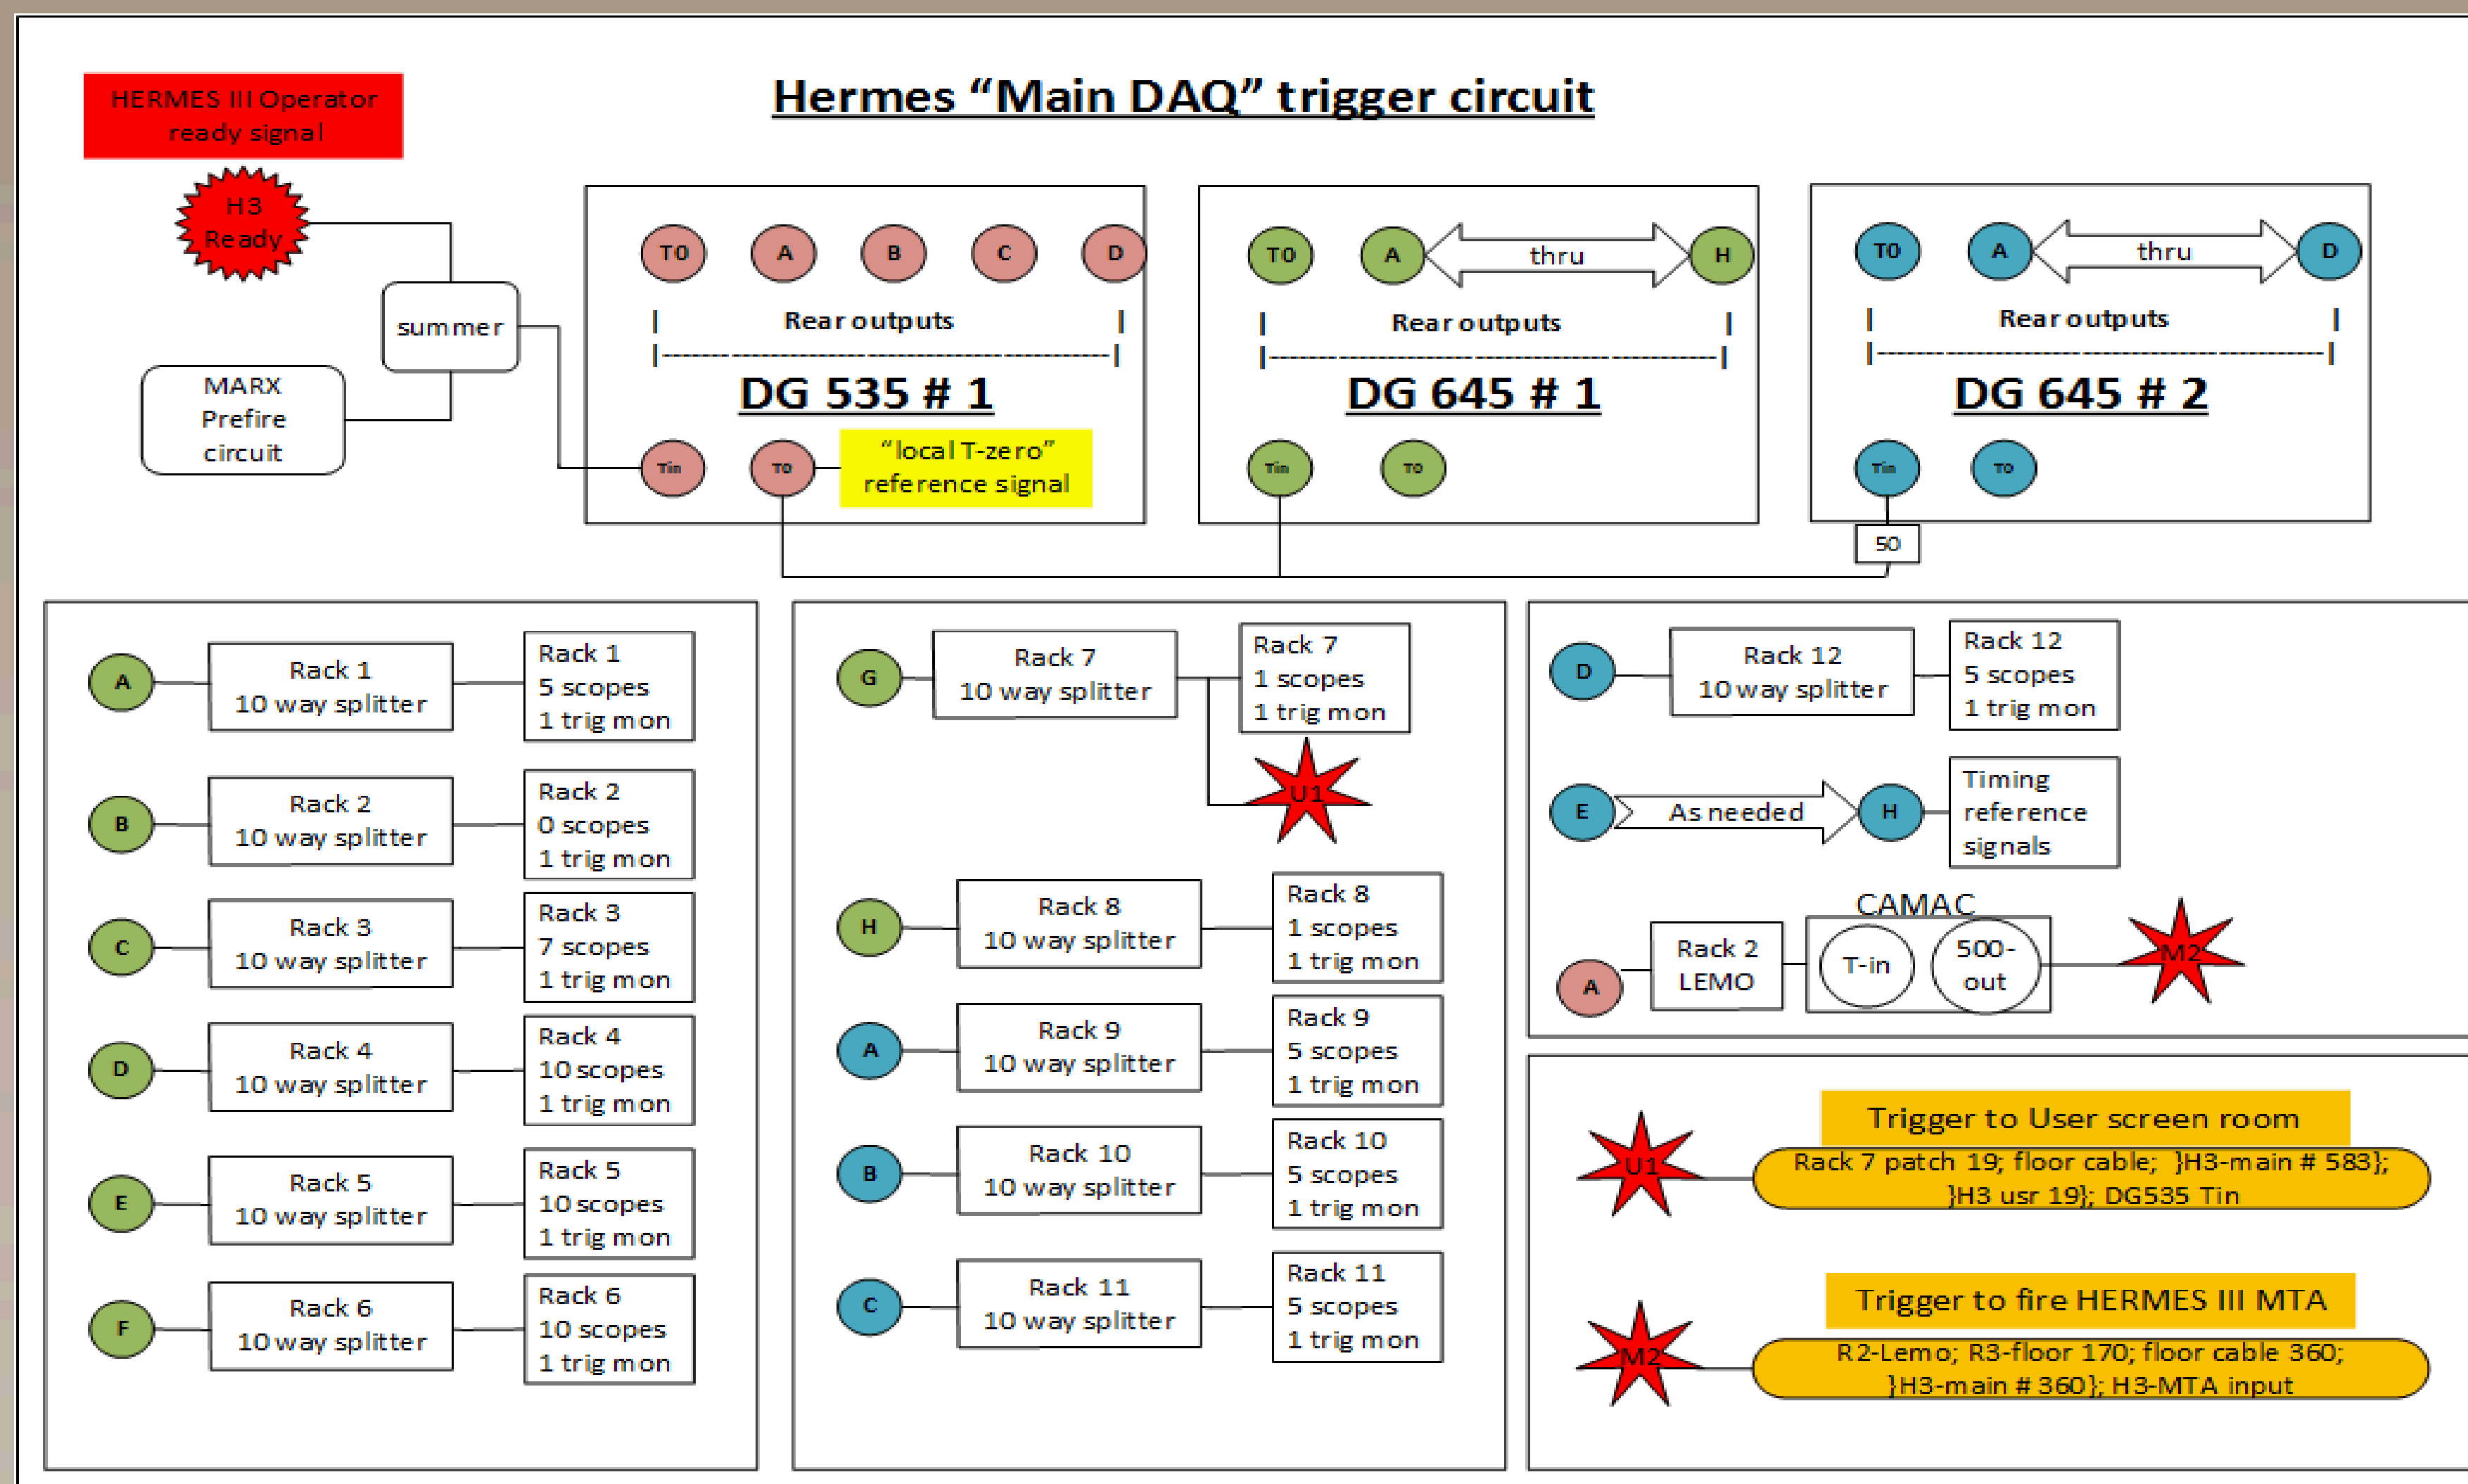

Figure 1: HERMES Main DAQ trigger circuit
- Main Trigger:** We eliminated three independent trigger systems for triggering the data acquisition system (DAS) with a single “top” level generator for triggering all sub-systems (Fig 1: “DG 535 #1”, Stanford Research Systems (SRS) model DG535). Prior to this change, the independent trigger systems were derived from machine diagnostics making it difficult to time sync the entire DAS system.
- Sub-triggers:** We replaced the numerous legacy trigger generators with two SRS DG-645 delay generators (Fig 1: “DG 645 # 1” and “DG 645 #2”), each equipped with eight individual 40 volt (50 ohm) outputs. The DG-645's outputs are cabled to a rack mounted trigger splitter. Our DAS system contains 12 racks of scopes providing this trigger system with four spare DG 645 outputs.
- Define “local T-zero” reference, measure, and archive:** We defined DG 535 #1's front panel T-zero output signal as our “local T-zero” timing reference (Fig. 1 yellow highlight). We measure the time delay between this signal edge and each scope trigger input signal and archive this appropriately into the DAS database. The DAS program later time shifts the scope time bases when processing the HERMES III accelerator shot data.